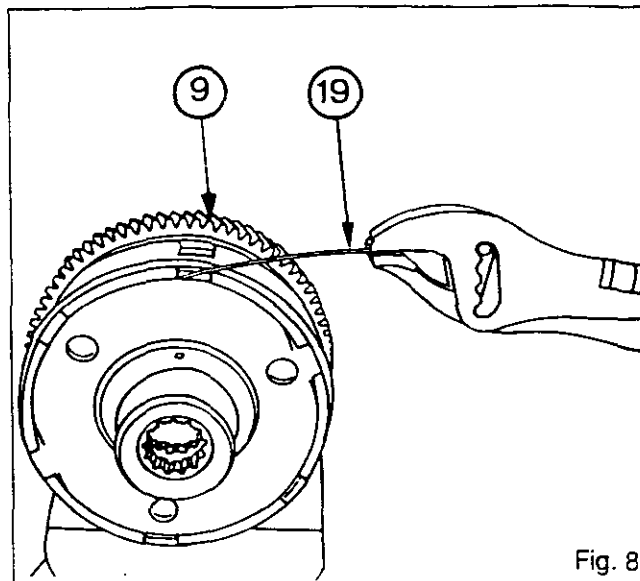
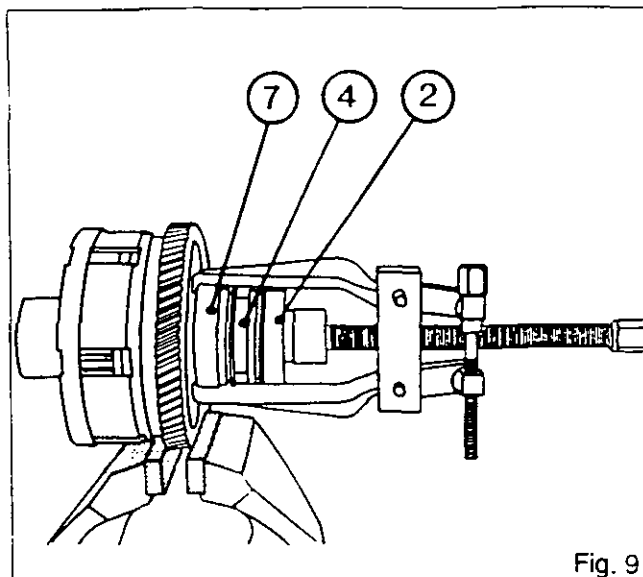

Fig. 8
Fig. 9
- 23. Place the clutch housing (9) in a vice (Fig. 8).
- 24. Remove the retaining ring (19) (Fig. 8) with vice grips.
- 25. Remove the cover (20) with the circlip (18), the outer plates (15) and the inner plates (16) (page 4).
- 26. Remove the O-rings (3) and (6).
- 27. Remove the circlip (1).
- 28. Extract the ball bearings (2) and (7) with the sleeve (4) (Fig. 9). Remove the sealing rings (5).